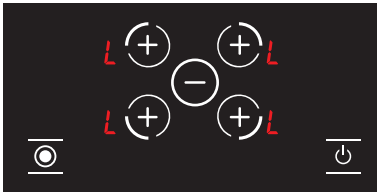

Figure 21
3. Then the child protection lock is activated and a sign **L** is displayed on all hotplates as a signal **L**. (See Fig. 21.) The marks **L** and **H** are displayed alternately in case **H** a hot plate is hot.